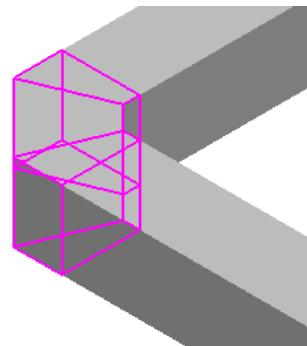

Figure 8: Selected Turn Feature
24. Select the turn feature, as shown in Figure 8, to open the Edit ribbon.